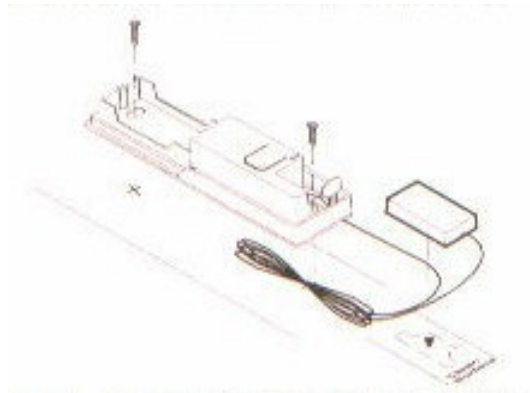

Figure 7
- Mount the transmitter with the included screws, as shown in Figure 7.